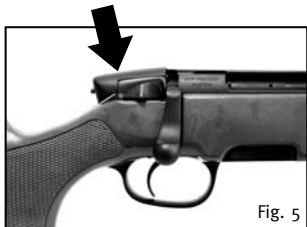

Fig. 5
### **Firing Position (Fig. 5):**
1. Move safety of the rifle to firing position, red dot is visible (Fig. 5).
1. Slide safety catch in firing position (Fig. 5)
2. When reinserting the bolt into the receiver the safety catch has to be in firing position (Fig 5).
Make certain the weapon is unloaded and the safety is on firing position (Fig. 5). The bolt handle is open.